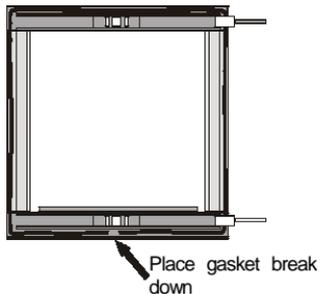

Fig. 6: Correct Location of Sealing
- The gasket break must always be on the bottom panel side (Fig. 6).